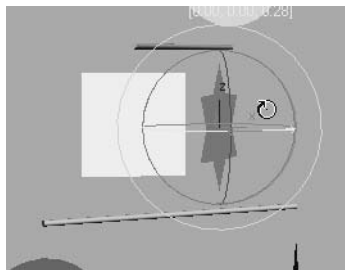

Figure 8.4
4. Still at frame 50, select the star and rotate it several hundred degrees on the Z-axis in either direction (Figure 8.4).